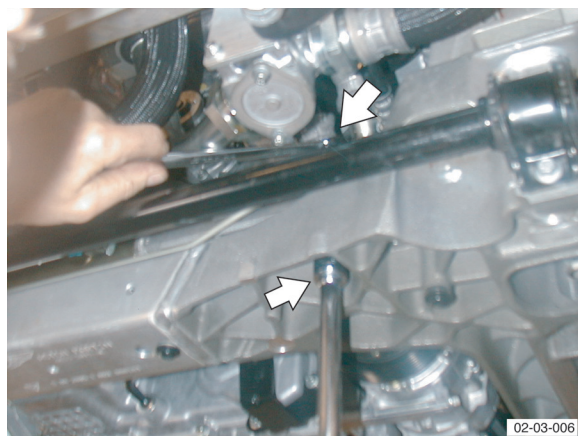

Fig. 4
27. Remove steering rack nuts (x3) from bolts (retain bolts in steering rack) (see Fig. 4).